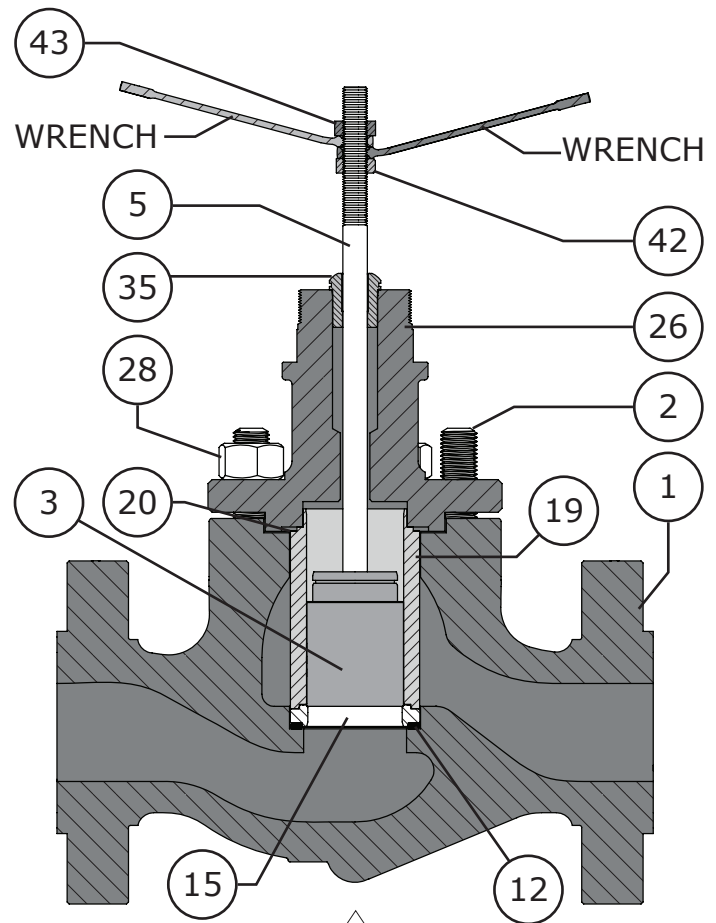

Figure 14 Lapping Procedure Setup (Steps 1 - 8)
- 8 Install the jam nut (Key 42) on to the valve stem (Key 5) and build a handle as shown in Figure 14 and 16 using the two wrenches and the hex nut (Key 43).